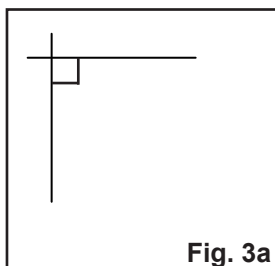
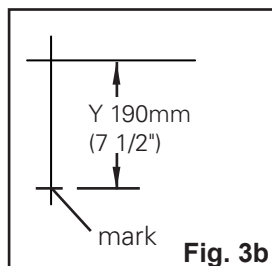
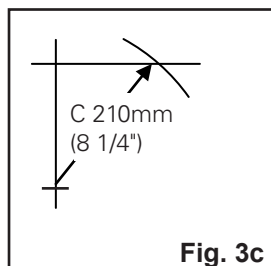
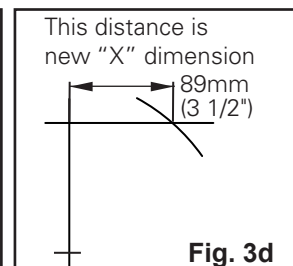

Fig. 3a
Fig. 3b
Fig. 3c
Fig. 3d
- Determine final dimension.** On a flat vertical surface, using a level, draw one horizontal line and one vertical line, creating a right triangle (Fig 3a). Measure down from the intersection the determined “Y” dimension and mark (Fig 3b). With the tape measure starting at the modified “Y” mark, swing the tape across the “X” line and mark at the “C” dimension where it crosses the “X” line (Fig 3c). Measure from the intersection to the “C” intersection and this will be your new “X” dimension (Fig. 3d).